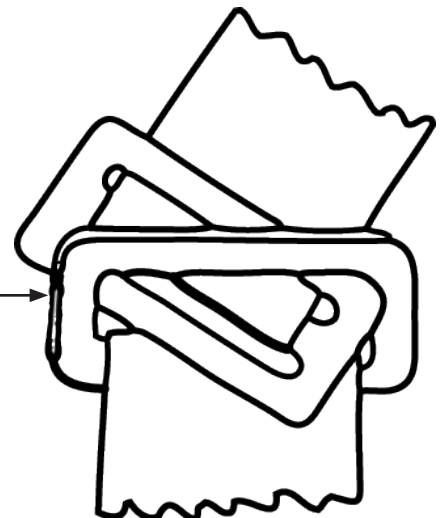

Figure 4
3. **DO NOT** attempt to work in an overall that does not fit properly. Since the overall is designed for adjustment within a limited size range, proper fit is imperative. Adjustment is made at the shoulder straps only. The shoulder straps use pass-thru quick-connect buckles (Figure 4). The shoulder straps must be adjusted prior to first use and for seasonal clothing changes.